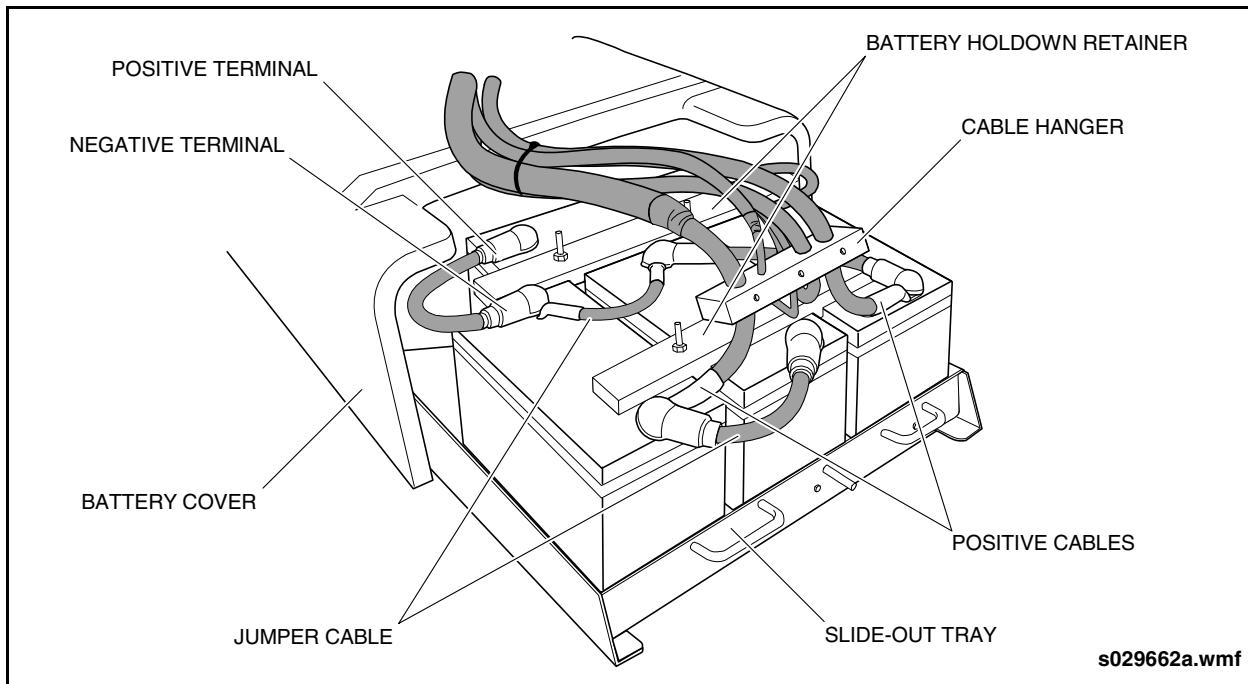

Fig. PM-25: Battery Tray
- Check external condition of battery and battery cables. Tighten hold-down nuts to prevent batteries from shaking but not so tight as to strain battery case. See "Fig. PM-25: Battery Tray" on page 56.